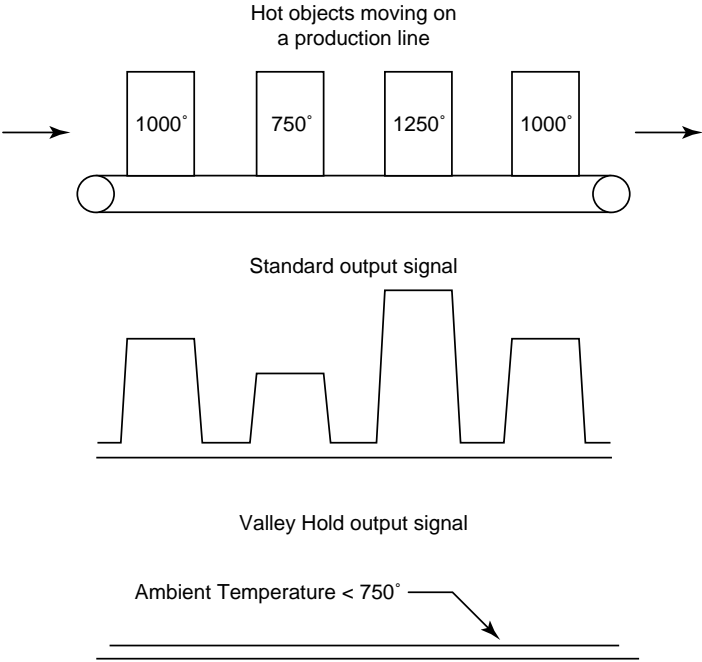

Figure 2-19: Valley Hold Example
With Valley Hold activated, the unit monitors the minimum temperature seen over the pretermined time interval. The algorithm may be described as being exactly the reverse of that for the Peak Hold, in that it monitors the lowest rather than the highest temperature seen. The duration time is changed by the ▲ (UP) and ▼ (DOWN) buttons. Figure 2-19 illustrates the Valley Hold output signal.